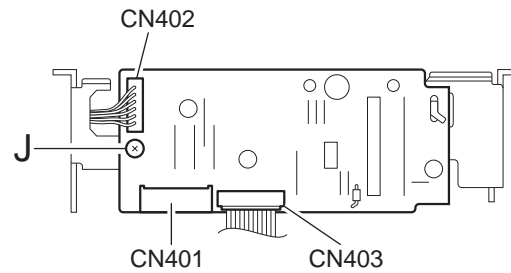

Fig.8
2.1.8 Removing the mecha board (See Fig.8)